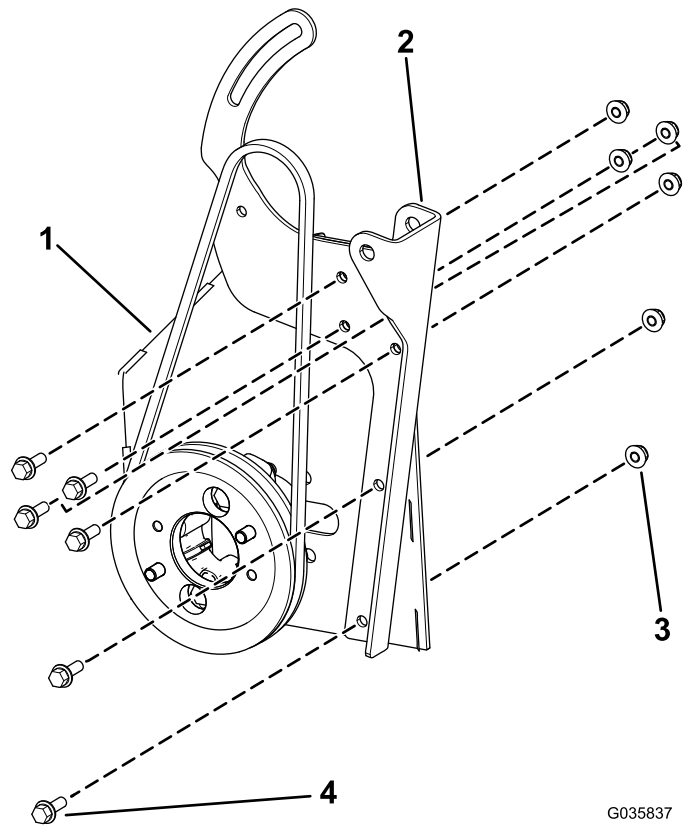

Figure 10
2. Install the alternator bracket to the hydraulic-pump bracket with the 6 hex-head flange screws (1/4 x 3/4 inch) and 6 flange nuts (1/4 inch) as shown in Figure 10.